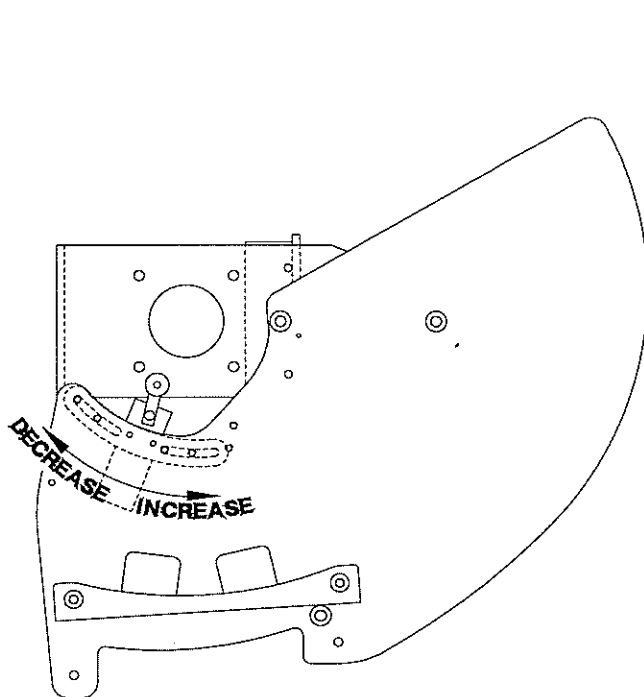

FIGURE 9 - ADJUSTING LIMIT SWITCH
1. Loosen the limit switch bracket thumbscrews and adjust switch clockwise to increase arm travel or counter-clockwise to decrease arm travel. (see figure 9)